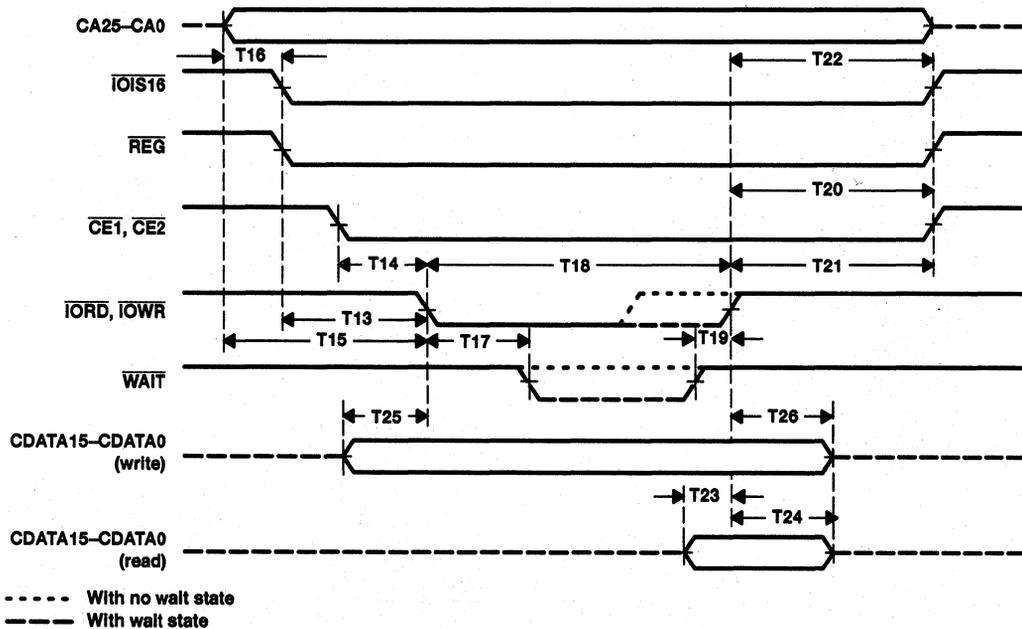

Figure 19. PC Card I/O Cycle
**timing requirements over recommended ranges of supply voltage and operating free-air temperature, I/O cycles (see Figure 19)**